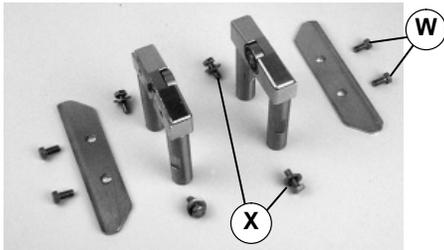

Figure 22
1. Typical Components (Figure 22)